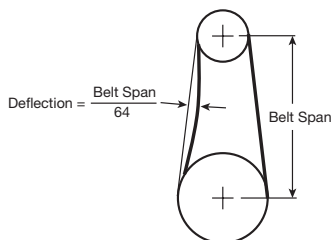

Figure 9
- Models 5DVN1, 5DVN2, 5DVN3, 5DVN4, 5DVN5: Belt tension should be adjusted to allow 1/64 inch of deflection per inch of belt span when moderate thumb pressure is applied. See Figure 9.